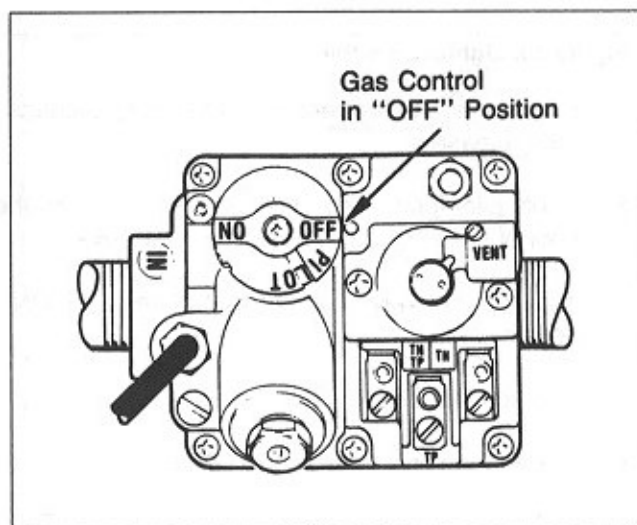

Figure 12. ESG Gas Valve
1. Remove the service door on the front of the heater. Make sure the gas valve control knob is in the OFF position. If not, turn the knob clockwise to the PILOT position, then depress slightly and continue turning clockwise to OFF (see Fig. 12).